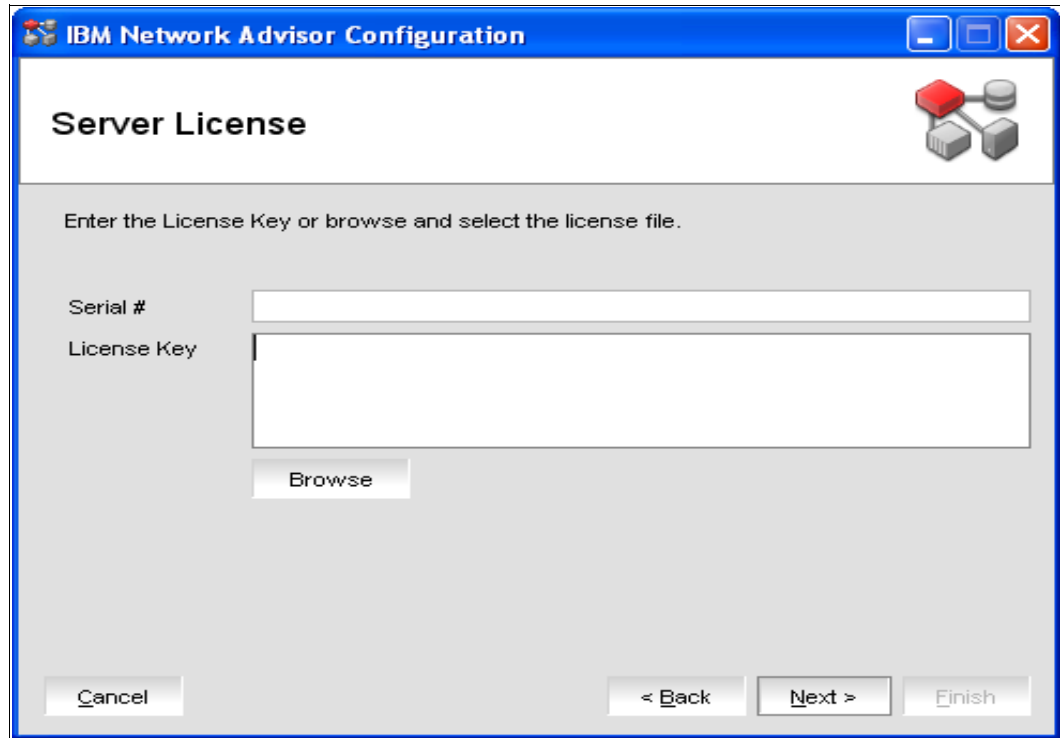

Figure 8-8 Server License key
7. Enter the serial number (from the DVD box) and the Server License (from the Key Certificate), or browse for and select the license file. If the window does not appear, your installation does not require a license. The License Key field is not case sensitive. See Figure 8-8 on page 253, and then click **Next**.